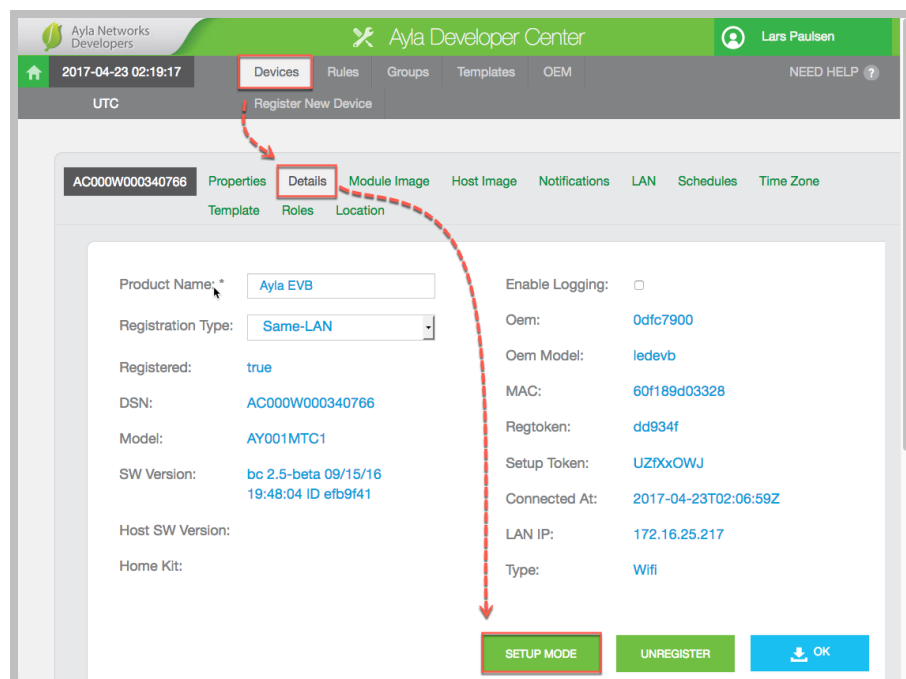
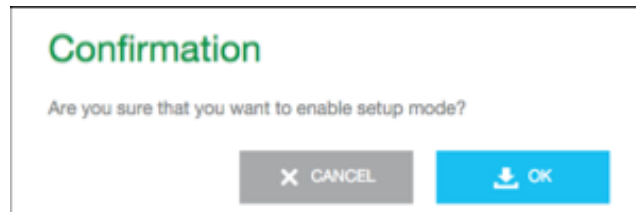

Figure 3: Device Details
Figure 4: Confirmation Dialog Box for Setup Mode
- Click **Details** in the options across the top of the page, as shown in Figure 3.
- Click the **SETUP MODE** button (shown in Figure 3). A Confirmation dialog box displays as shown in Figure 4.